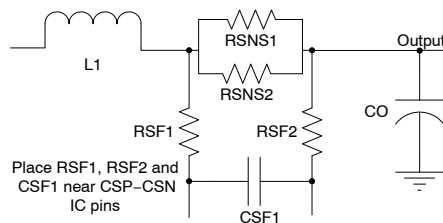

Figure 24. Current Sense Resistor π -Filter
- An optional R–C–R π -filter on the IC's CSP/CSN pins (Figure 24) is sometimes used to filter differential and common mode noise